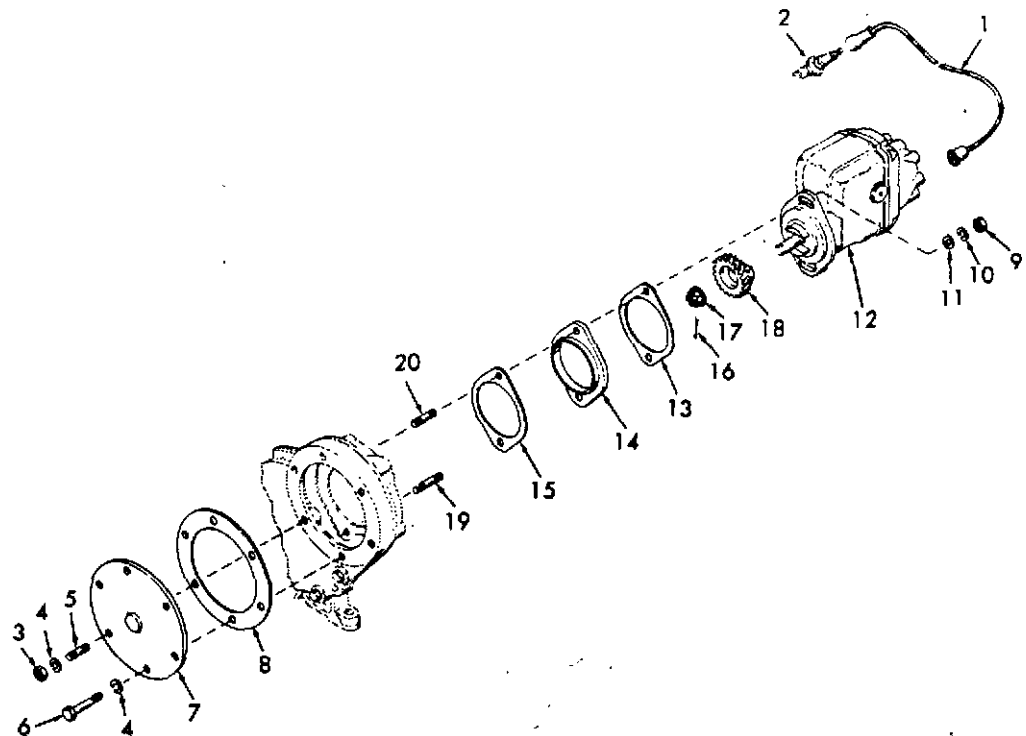
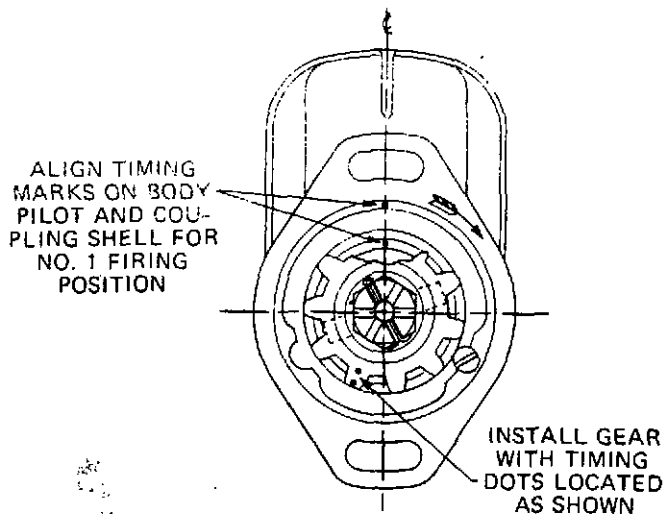

Figure 5-17. Magneto Ignition System, Exploded View
Figure 5-18. Magneto Gear Installation
2. Remove the nuts (3, figure 5-17), cap screws (6), and lock washers (4) which secure the cover (7) to the gear housing cover. Remove the cover and gasket (8).
4. Remove the nuts (9), lock washers (10), and flat washers (11) which secure the magneto (12) to the gear housing. Pull the magneto straight back, and remove the gasket (13), adapter (14), and gasket (15).
5. If the magneto gear (18) is worn or damaged, remove the cotter pin (16) which retains the nut (17). Unscrew and remove the nut while holding the gear, and pull off the gear from the magneto shaft.
1. Rotate the coupling shell to align the timing marks on the coupling shell and magneto body pilot, as shown in figure 5-18. Install the magneto gear (18, figure 5-17) with the timing dots on the gear positioned as shown. Secure the gear with the nut (17), and retain the nut with a cotter pin (16).
4. Install the adapter (14, figure 5-17) and gaskets (13 and 15) on the gear housing.
6. Secure the magneto and adapter to the gear housing with two nuts (9), lock washers (10), and flat washers (11). Do not overtighten the nuts.
7. Position the cover (7) and gasket (8) on the gear cover, and secure the cover (7) with nuts (3), cap screws (6), and lock washers (4).